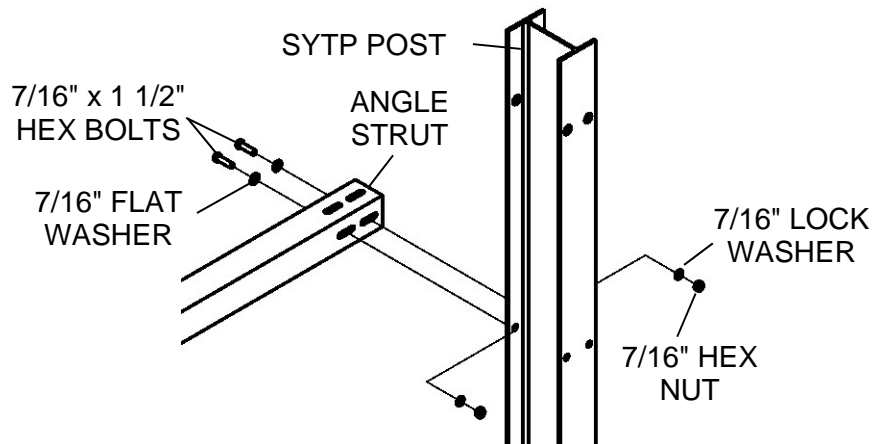

Figure 8 - Angle Strut Assembly
- 3.2 Attach the other end of the Angle Strut to the SYTP Post using (2) 7/16" x 1 1/2" hex bolts, (2) 7/16" flat washers, (2) 7/16" lock washers and (2) 7/16" hex nuts. Place the flat washers between the bolt heads and the Angle Strut and the lock washers under the hex nuts as shown in Figure 8.